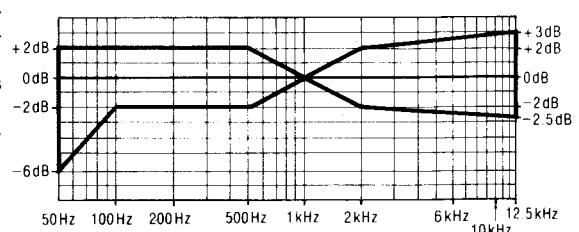
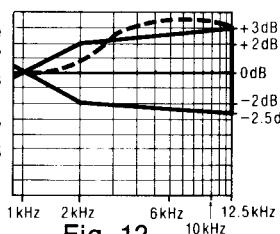
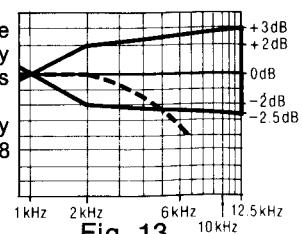

Fig. 11
Fig. 12
Fig. 13
- Playback the signals recorded in step 6, and check if the frequency response curve is within the limits shown in the overall frequency response chart for normal tapes (fig. 11).
When the curve exceeds the overall specified frequency response chart (fig. 11) as shown in fig. 12.
When the curve falls below the overall specified frequency response chart (fig. 11) as shown in fig. 13.
- 2) Repeat steps 5 and 6 for confirmation (Proceed to steps 7, 8 and 9 if the curve is now within the charted specifications as shown fig. 11.)
3) If the curve still exceeds the specifications (fig. 11), increase bias current further and repeat steps 5 and 6.
3) If the curve still falls below the charted specifications (fig. 11), reduce bias current further and repeat steps 5 and 6.